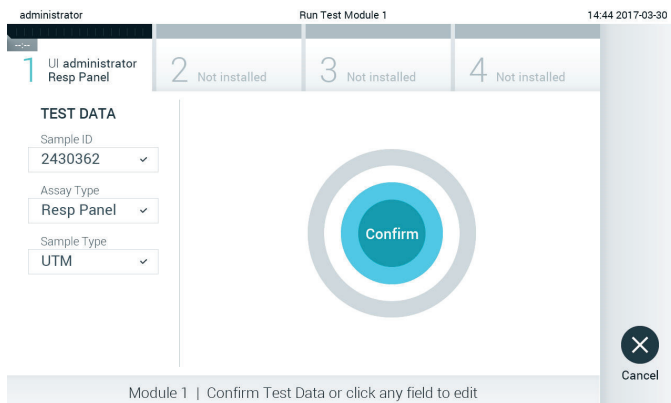

Figure 26. The Confirm screen.
- The **Confirm** screen will appear. Review the data entered and make any necessary changes by pressing the relevant fields on the touchscreen and editing the information (Figure 26).